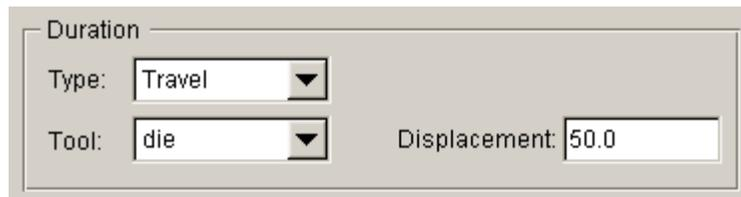

Figure 8.2.82 Travel control stage time
**TRAVEL** Allow the user to specify tool travel distance along the working direction. The user needs to select a reference tool from tool list illustrated in Figure 8.2.82. Then, define the displacement of the tool along its working direction. The time of travel is automatically computed by Auto Setup.